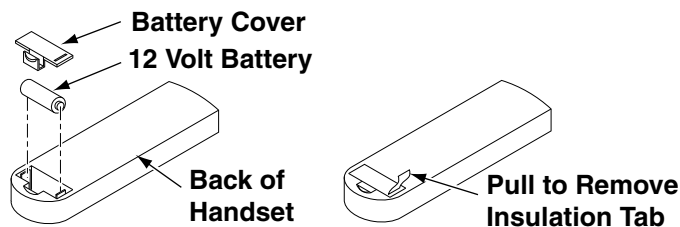

Figure 21 - Installing Battery into Back of Handset
3. Activate the remote handset battery by removing the insulating tab on the back of the handset (see **Figure 21**). The battery is included pre-installed.